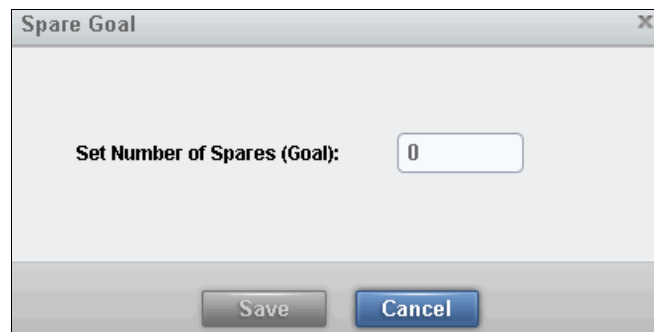

Figure 7-44 MDisk set spare goal
- i. Figure 7-44 shows how to, in the GUI, set the number of spare drives that are required to protect the array from drive failures.